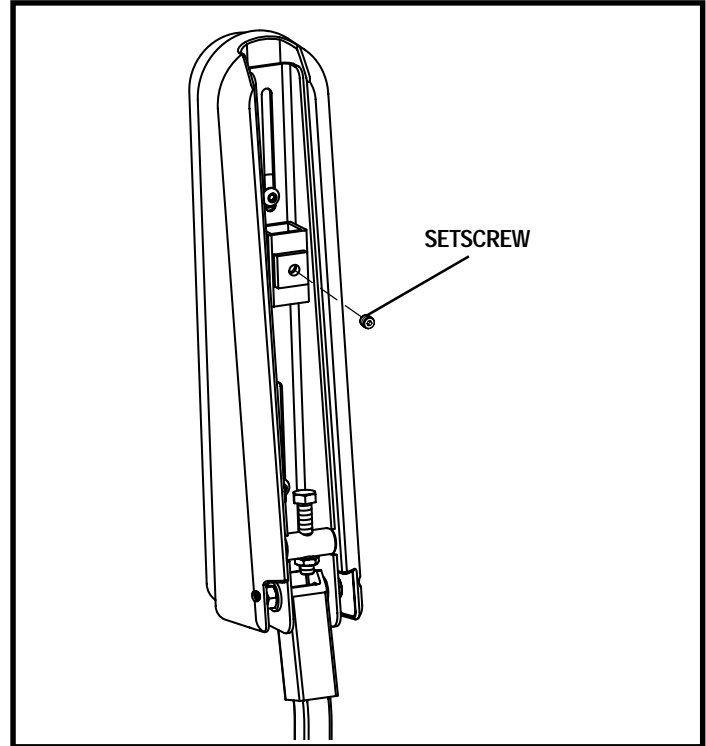

Figure 18. Underside of Armrest (Contour Seat)
2. Loosen the setscrew on the controller bracket. See figure 18.
NOTE: For contour seats, loosen the setscrew on the underside of both armrests, transfer the controller, and tighten the setscrews. See figure 18.